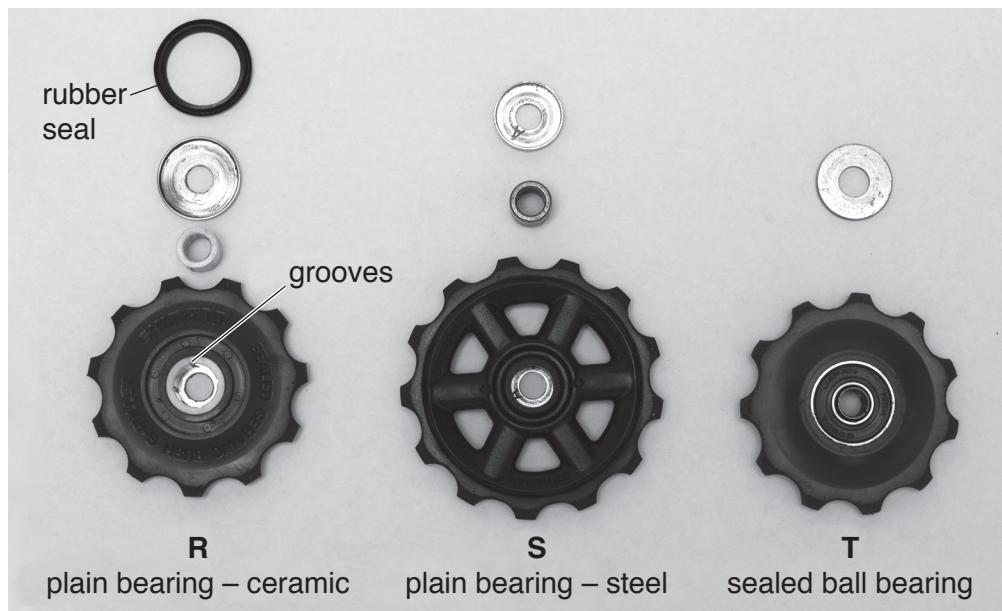

Fig. 12
- (c) Fig. 12 shows three different types of bearing that can be used in a jockey wheel.